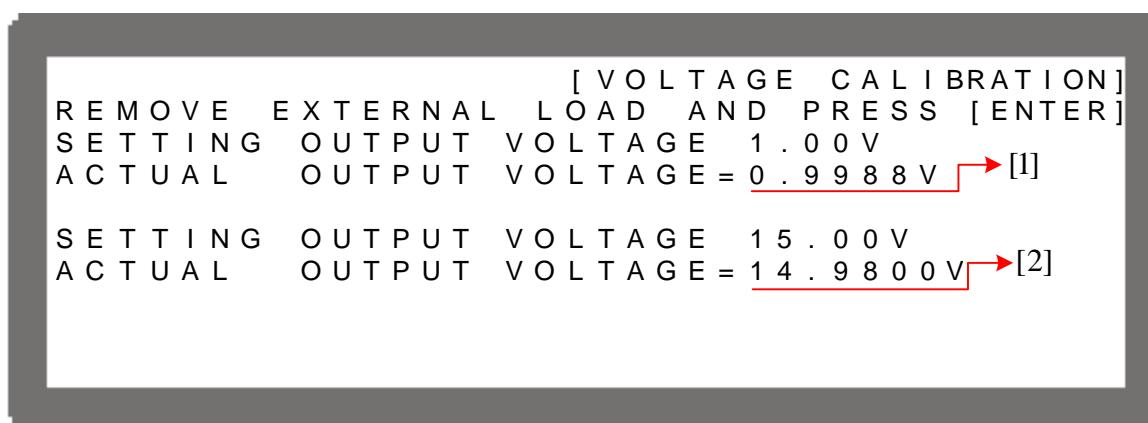

Figure 3-100
5. First does the low voltage range calibration (16V), the instrument will set the output voltage to 1.00V and the cursor is stopped at position [1] as Figure 3-100 shows. Enter the voltage measured by DVM (4 digits after decimal point) and press “” to confirm.
6. Press “” again to do the low voltage range calibration for its second point, the instrument will set the output voltage to 15.00V and the cursor is stopped at position [2] as Figure 3-100 shows. Enter the voltage measured by DVM (4 digits after decimal point) and press “” to confirm.
2. It is necessary to remove the output load when performing voltage calibration. The LCD panel will show the text as Figure 3-100 and once no load is confirmed for the output, press “**ENTER**” to start calibration.